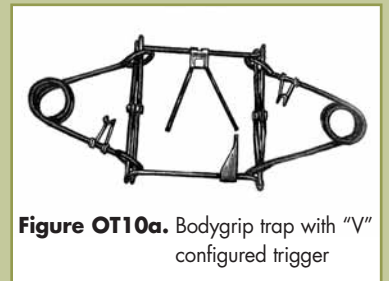

Figure OT10a. Bodygrip trap with “V” configured trigger
- Selectivity features: Triggers were configured in either a “V” or “T” shape during testing (Figures OT10a and OT10b).
- Selectivity features: Triggers were configured in either a "V" or "T" shape during testing (Figure OT10a and OT10b).